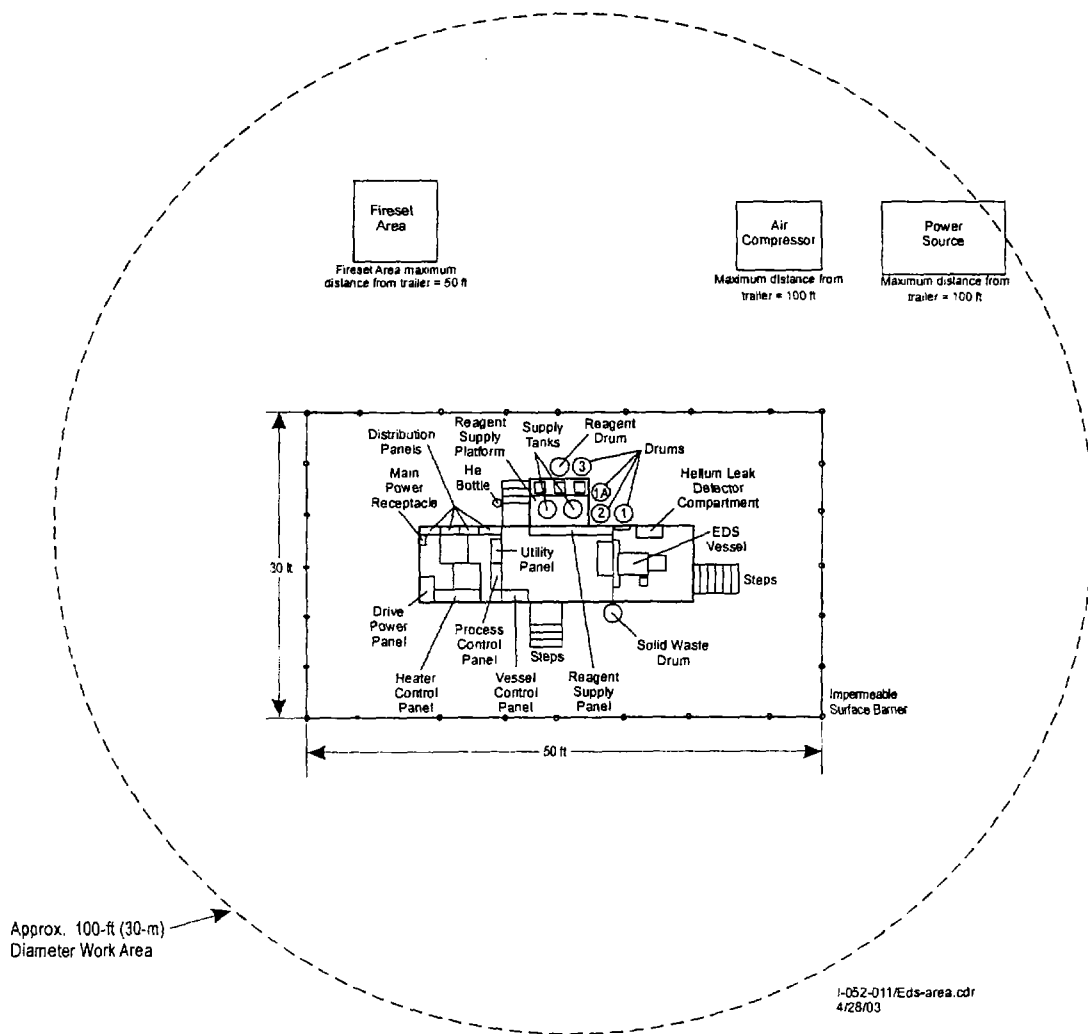

Figure 1-3. EDS and Supporting Equipment
**If located in an open area, EDS supporting equipment should be located within a 15-meter radius from the center of the EDS Trailer. If located within a facility or structure, then the site shall be large enough to offer uncluttered workspace. Refer to Figures 1-3 and 1-4 for layout of the EDS and supporting equipment.**